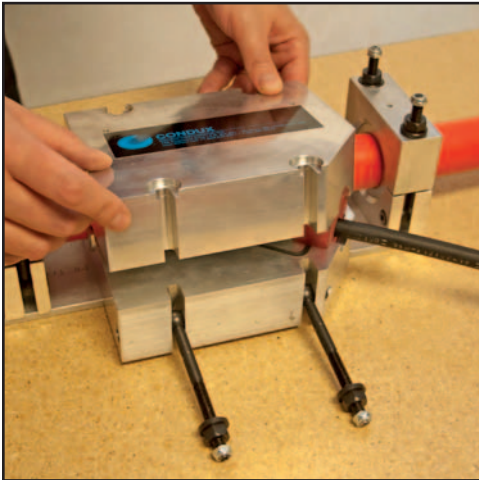

Figure 11. Install Air Block Cover
9. Install Air Block Cover and Secure (Figure 11) Tighten bolts securely, but do not over tighten. Use a cross tightening procedure with the hold down bolts.